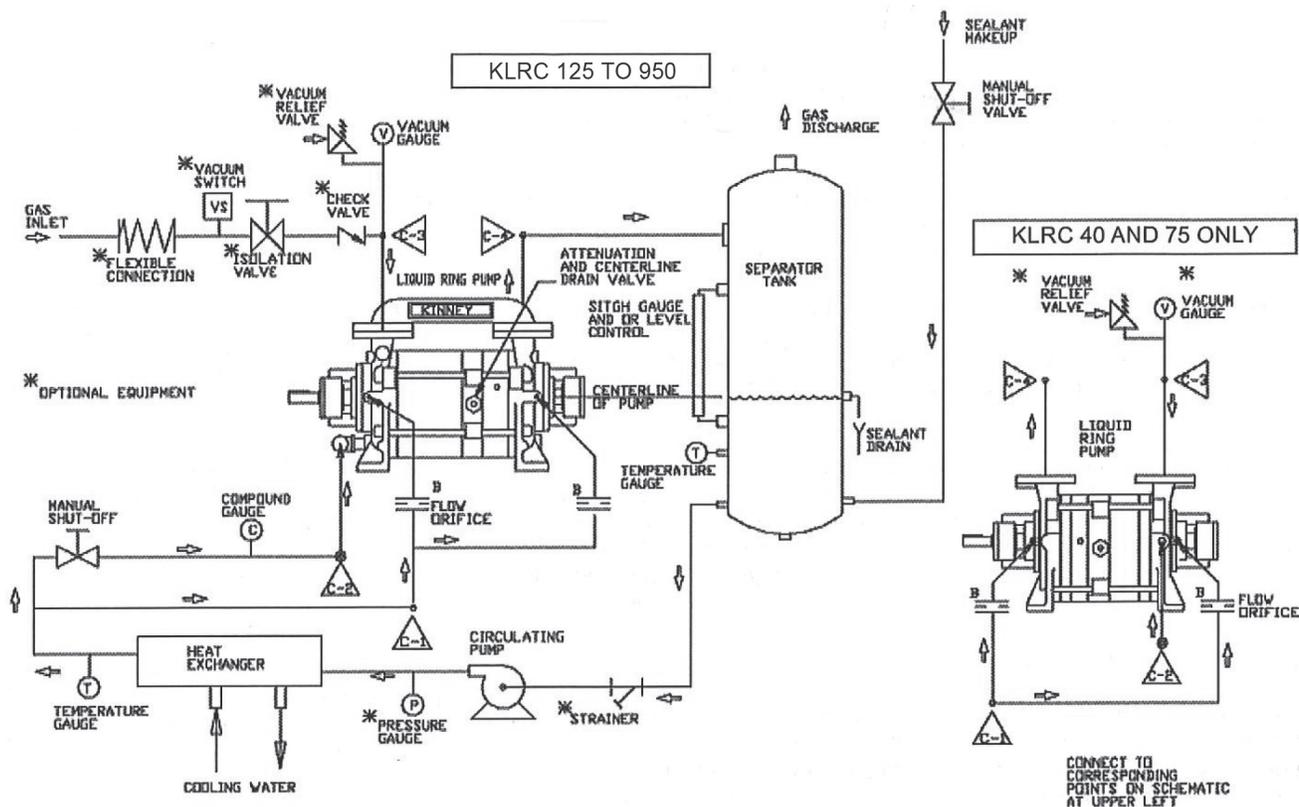

Figure 3-3 – Piping Schematic: Full Sealant Recovery System with Circulating Pump
- Full Recovery with Circulating Pump (Figure 3-3)
A full sealant recovery system is a closed-loop sealing configuration that employs a heat exchanger (water- or air-cooled) to maintain proper sealing fluid temperature. **See Figure 3-3** for piping arrangement. This arrangement is not suitable for prolonged operation at pressure above 400 Torr (533.28 mbar) unless a circulating pump is installed.